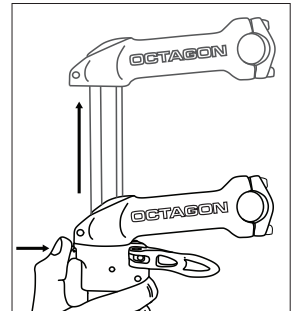

Fig. 49: Push adjustment button and raise stem.
2. Depress the adjustment button with one hand while grasping the stem with the other. While continuing to hold the adjustment button, raise the stem to the desired height (Fig. 49).